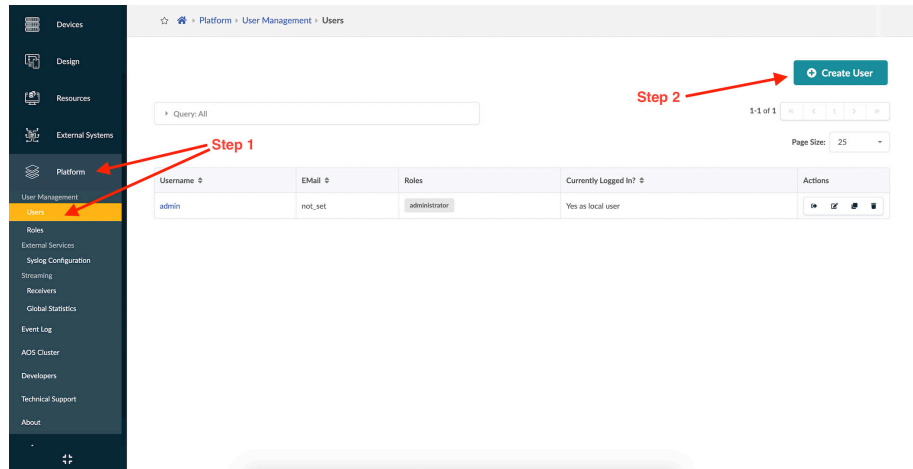

Figure 3.12 Creating a New User
Step 1: Go to Platform > Users. See Figure 3.12.